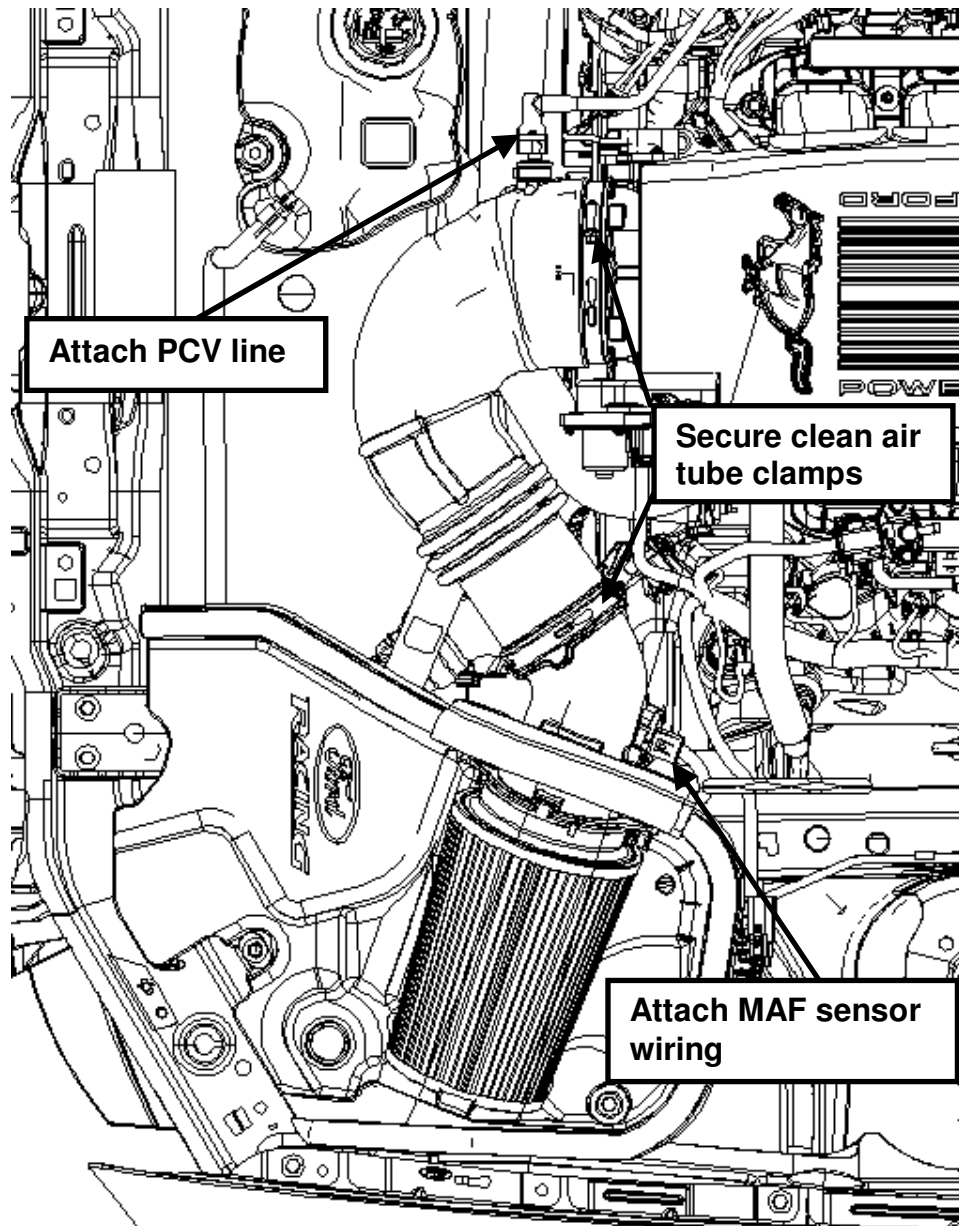

Fig. 7
STEP 5: Install the new rubber clean air tube onto the throttle body and air intake bucket assembly. Tighten the worm drive clamps and torque to 3 Nm (26 lb-in). Re-install the MAF electrical connector onto the MAF sensor and reconnect the PCV hose (See Fig. 7).